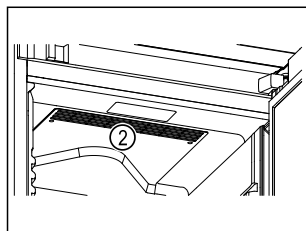

Fig. 66
- Ventilation slots Fig. 66 (2) for recirculation fan in the interior must be kept clear.